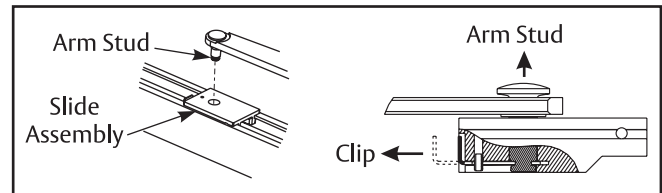

Fig. 3
2. Using a flat head screw driver, pull out clip in track slider. (Fig. 3)
3. Pull up slightly on arm so arm stud comes out of slider. (Fig. 3)